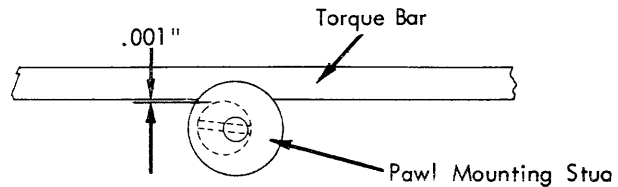

FIGURE 102. Pawl Mounting Stud Adjustment
- 3. Pawl Mounting Stud - Rotate the pawl mounting stud so that it clears the escapement torque bar by .001" at the closest point along the writing line (Fig. 102). Keep the high part of the eccentric toward the left so that the force of the torque bar will tend to tighten the stud instead of loosen it.